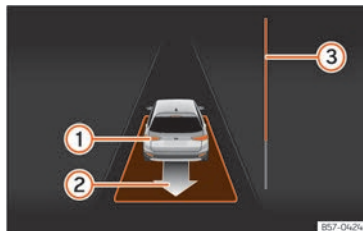

Fig. 189 On the instrument panel display: exit a parallel parking space.
The progress bar »» Fig. 189 ③ indicates the distance to cover »» page 272.